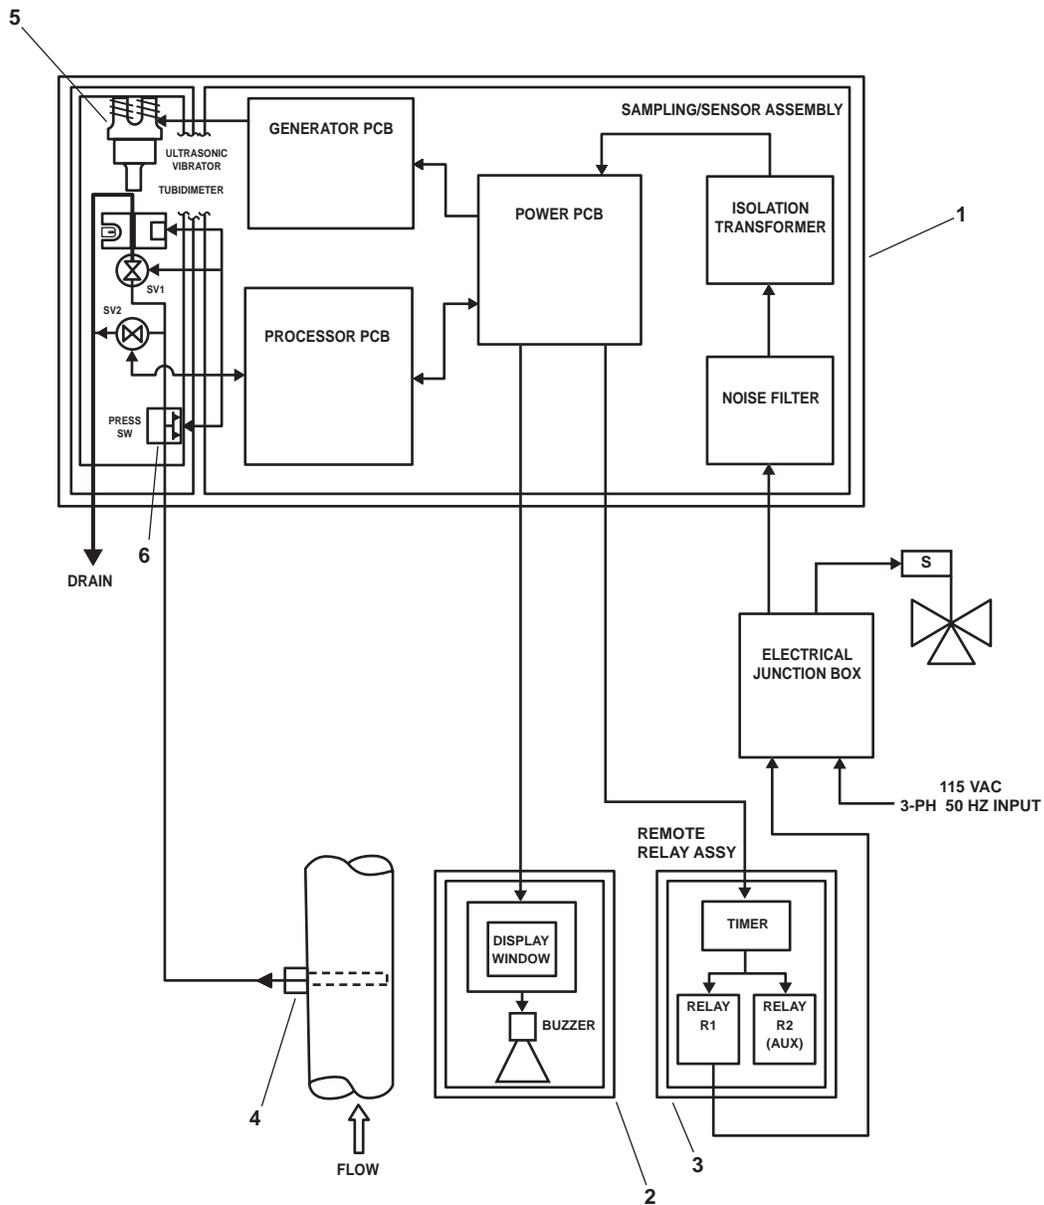
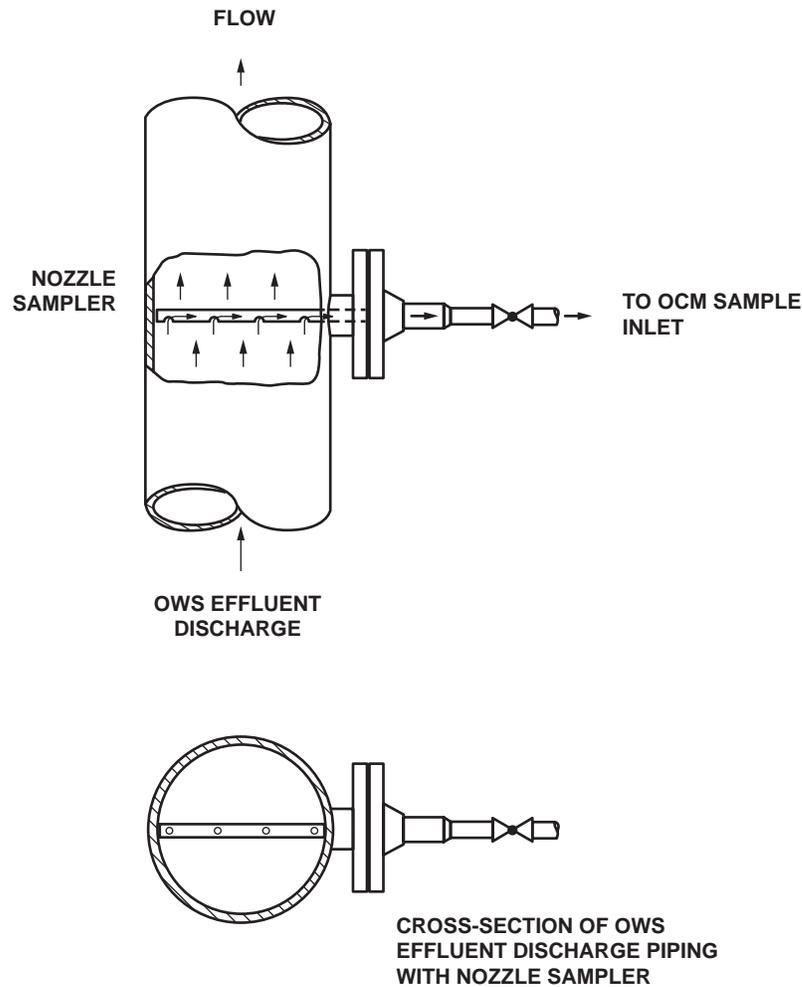
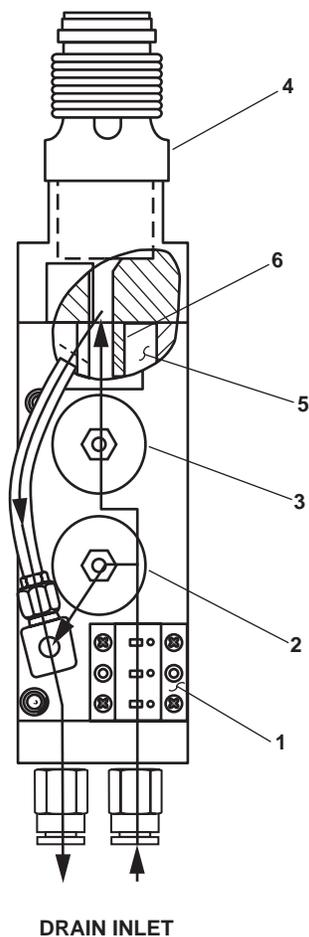
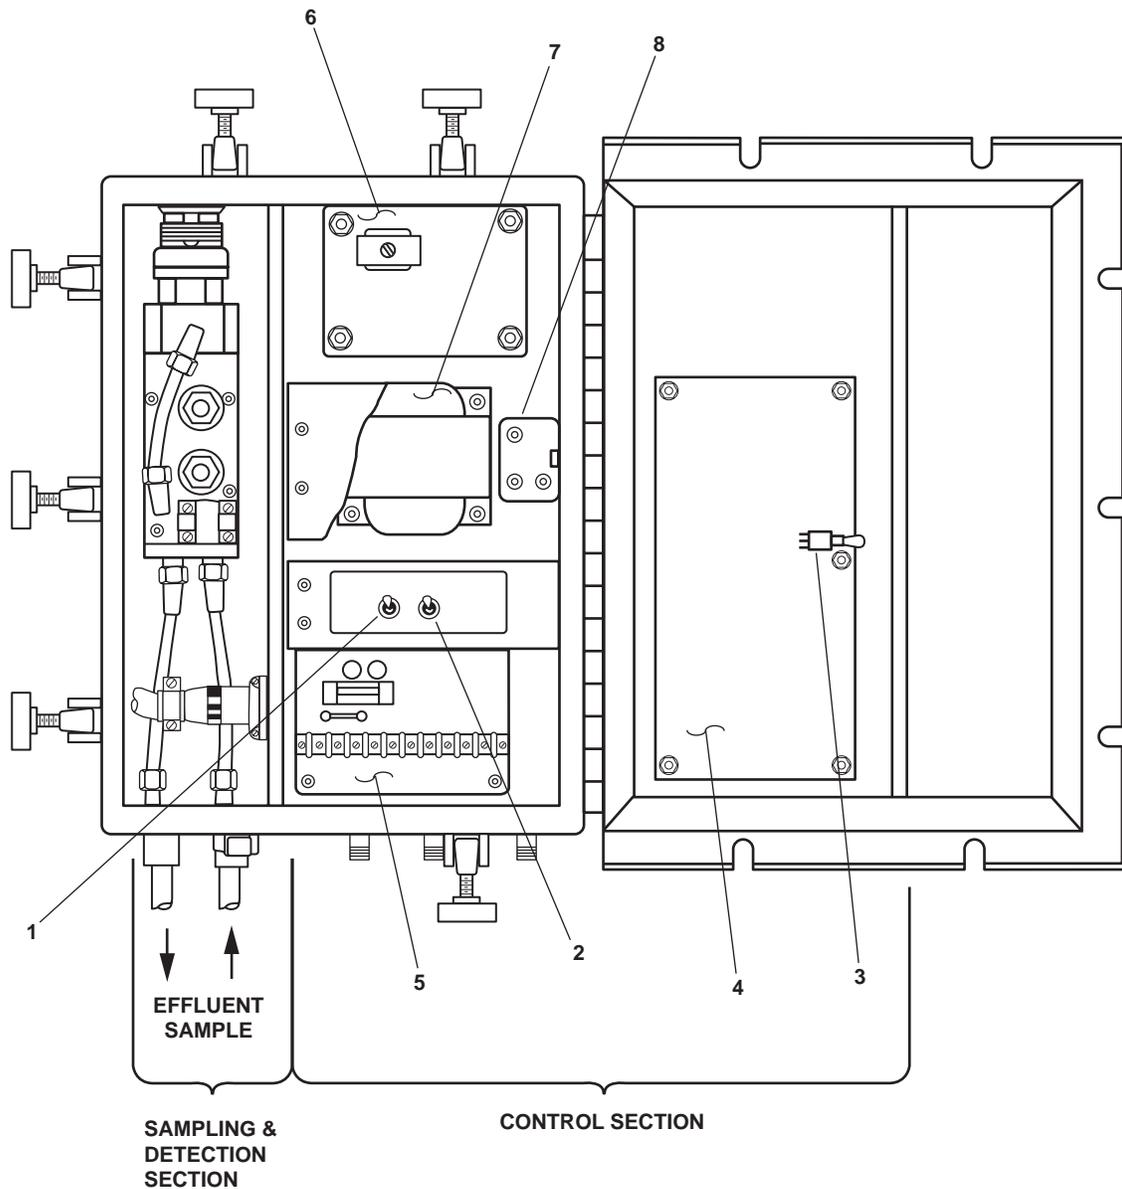

Figure 3. Oil Content Monitor System, Block Diagram
Figure 4. Nozzle Sampler, General Arrangement
Figure 5. Sample and Detection Subassembly (SDA)
Figure 6. Sampling/Sensor Assembly
The OCM system is comprised of the sampling/sensor assembly (figure 3, item 1), remote indicator (alarm) assembly (figure 3, item 2), and the remote relay assembly (figure 3, item 3). These three components are electrically interconnected to function as follows:
1. The sampling/sensor assembly (figure 3, item 1) samples the OWS effluent, measures the oil content, and generates electrical signals for the system indicators, alarms, and control relays.
2. The remote indicator (alarm) assembly (figure 3, item 2) is the remote control and indicator unit for the OCM system.
3. The remote relay assembly (figure 3, item 3) is the relay control link between the OCM and the diverter solenoid valve on the OWS discharge piping. The diverter solenoid valve directs the effluent either over-board or to the Oily Waste Tank (OWT).
The effluent sample is taken from the OWS effluent discharge through a nozzle sampler (figure 3, item 4; figure 4). This device takes a sample from the effluent stream, which is uniform and typical of the effluent being discharged from the OWS. The OWS effluent pressure delivers the sample to the sampling/sensor assembly. The effluent is pressure regulated at 5 to 25 PSI (0.3 to 1.7 bar) at the sample inlet of the sampling/sensor assembly. Nominal 3/8-inch piping (or tubing) connects the nozzle sampler to the sample inlet on the sampling/sensor assembly.
The SDA (figure 3, item 5; figure 5) controls the flow, emulsification, and turbidity measurements of the effluent sample. It consists of a plastic manifold block with the following components mounted to it: a pressure switch (figure 5, item 1), two solenoid valves (figure 5, items 2 and 3), an ultrasonic vibrator (figure 5, item 4), and a turbidimeter (figure 5, item 5), which takes the turbidity measurements using photoelectric components.
OPERATION SELECTOR switch A1S1 (figure 6, item 1). This switch is a three-position toggle switch (AUTO, OFF, and TEST positions) used to select the mode of operation. With switch A1S1 in the OFF position, none of the system indicators or displays will energize, and the diverter solenoid valve will remain in the recirculate (de-energized) position. With the switch in the AUTO position, the OCM will be energized whenever there is 5 to 25 PSI (0.3 to 1.7 bar) at the sample inlet, as detected by a pressure switch (figure 3, item 6) that is part of the SDA. Pressure at the sample inlet is normally created by the OWS discharge pump, however flushing water pressure will operate the OCM when the sample inlet valve is closed and the flushing inlet valve is opened. The OCM indicators will energize when the required pressure is applied in this AUTO mode. With switch A1S1 in the MAN position, the OCM is energized regardless of the sample pressure or flow. The MAN position is only to be used for troubleshooting and system verification, as operation of the OCM without adequate pressure or flow can damage the unit.
ALARM LIMIT (PPM) SELECTOR switch A1S2 (figure 6, item 2). This switch is a three-position toggle switch (70 PPM, REMOTE, and 15 PPM positions). Switch A1S2 is used to select the 70 or 15 PPM alarm limits or to enable the remote alarm limit selector switch. With A1S2 in the 70 PPM position, the OCM will activate alarms and energize the diverter solenoid valve when the oil content exceeds 70 ppm (+/- 30 ppm). With A1S2 in the 15 PPM position, the OCM will activate alarms and energize the diverter solenoid valve when the oil content exceeds 15 ppm (+/- 5 ppm). With A1S2 in the REMOTE position, the PUSH TO CHANGE ALARM LIMIT (PPM) pushbutton switch A2S1 on the remote indicator alarm assembly is engaged, allowing the operator to select the alarm limit from this remote location.
CHECK ALARM toggle switch A1S3 (figure 6, item 3). This switch is used to test the OCM electronics (ON, UP position), or to operate the Ultrasonic Vibrator Assembly (UVA) continuously (DOWN position).
Processor Printed Circuit Board (PCB) (figure 6, item 4). This circuit board provides the primary control signals for the OCM system, including all indicator panel displays. It controls the sampling sequence and solenoid valves. It also electronically measures, stores, and compares the signals provided by the turbidimeter (part of the SDA), and controls the range and alarm limit (ppm) of the OCM. In addition to the main indicator panel, it provides two Light Emitting Diodes (LEDs) on the back side of the Processor PCB that are used for troubleshooting. The CHECK ALARM toggle switch A1S3 (figure 6, item 3), described in the paragraph above, is also installed on the processor PCB.
Power Printed Circuit Board (PCB) (figure 6, item 5). This circuit board provides the electrical interface points with the other PCB's, the SDA, switch plate sub-assembly, remote indicator (alarm) assembly, and remote relay assembly. The circuit board also distributes the 115 Vac power to the other components, produces DC power for the other control circuit components, contains the system fuse (2 amp) providing circuit protection, contains the main alarm limit relay, and contains the Elapsed Time Indicator (ETI).
Generator Printed Circuit Board (PCB) (figure 6, item 6). This circuit board produces a 50 kHz signal, which drives the UVA (part of the SDA).
Noiseless Transformer (figure 6, item 7). This transformer is used to isolate and condition incoming 115 Vac power to reduce Electromagnetic Interference (EMI) noise and susceptibility.
Noise Filter (figure 6, item 8). This filter is used to reduce electrical noise coming into and going out of the OCM through the input power cable so that it does not electrically affect sensitive equipment, and is not affected by other electrical equipment.
Sampling and measurement of the effluent begins when the pressure switch (figure 5, item 1) is activated (5 PSI (0.3 bar) minimum). The OCM measurement sequence is carried out in cycles. The turbidimeter (figure 5, item 5) measures the turbidity (cloudiness) of the sample before and after it is emulsified by the UVA (figure 5, item 4). Turbidity increases when the oil particles in the water are emulsified. The measured increase in turbidity is proportional to the oil content of the sample. The presence of air bubbles in the sample can affect the turbidity measurement. Their effect is minimized by using low level ultrasonic vibration energy and a short time delay to allow de-bubbling before each turbidity measurement is made.
Two solenoid valves, SV1 (figure 5, item 3) and SV2 (figure 5, item 2), on the SDA, are used to direct the effluent sample into the turbidimeter (figure 5, item 5) for measurement every 15 seconds. A signal opens the upper solenoid valve SV1 and closes the lower solenoid valve SV2, allowing new sample water to displace and flush out the previous one. SV1 then closes, isolating the new sample inside the glass cell (figure 5, item 6) of the turbidimeter. SV2 simultaneously opens, directing the sample stream to a bypass drain. These two valves operate in closed/open positions opposite each other, permitting alternate cycling of sampling and sample bypass. The UVA (figure 5, item 4) of this OCM very effectively cleans the glass cell during each sample cycle.